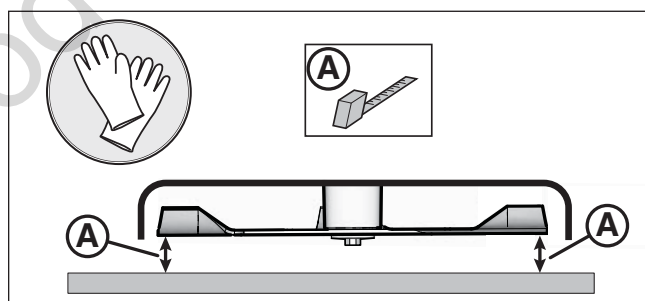

Figure 40. Checking the Blade Height Adjustment
7. See Figure 40. Position the outside mower blades so they face front-to-back.